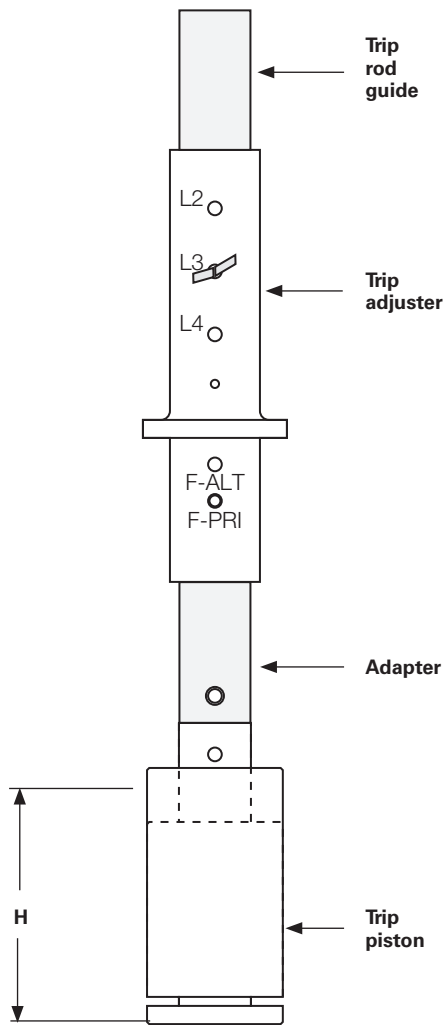

Figure 36. Sequence Selector Assembly
The Height, as defined by (H) on Figure 36, of the trip piston permits different timing sequences. Refer to Table 9, 10, and 11, to determine the correct parts used for desired timing sequence. These tables also identify additional service parts that may be present or required.
Table 11. Lockout sequences (Refer to Figure 36)